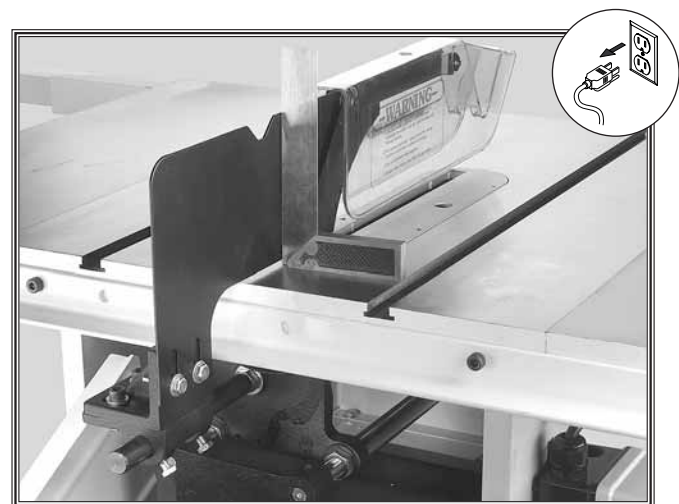

Figure 48. Squaring splitter to the table.
2. Use a machinist square to adjust the blade splitter 90° to the table as shown in **Figure 48**.